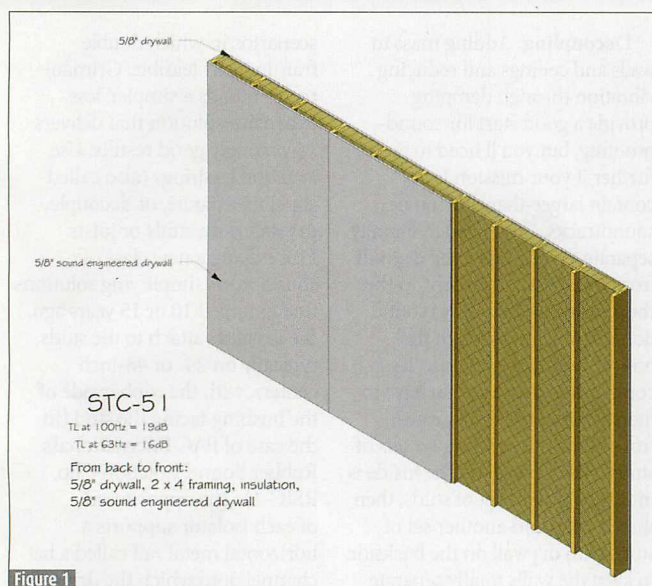

Figure 1
Acoustically engineered drywall is available from several companies in thicknesses ranging from half an inch to more than an inch and includes the Sound-Engineered Drywall (SED) line from Supress, National Gypsum's Gold Bond SoundBreak XP Gypsum Board, and Serious Energy's QuietRock line. As you can see in Figure 1, sound-engineered drywall with insulation does a respectable job of impeding sound transfer in the middle frequencies but won't prevent bass from permeating an adjacent room; in the example shown, the Transmission Loss (TL) at 63 hertz—or how much sound is attenuated at that low frequency—is only 16 dB. "Low-frequency vibrations just push right through to the studs," Grimani explains.